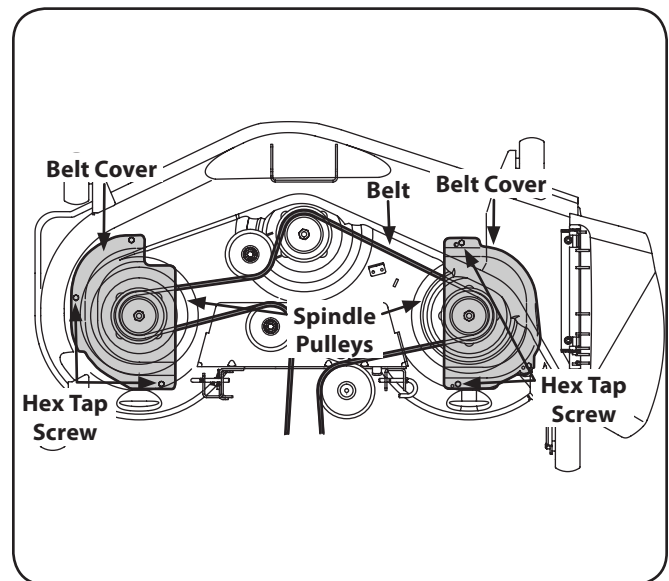

Figure 7-6
2. Remove the hex tapping screws securing the belt covers to the deck and remove the belt from the spindle pulleys. Refer to Fig. 7-6.
3. Install the new belt around the spindle pulleys as shown in Fig. 7-6 and reinstall the belt covers.